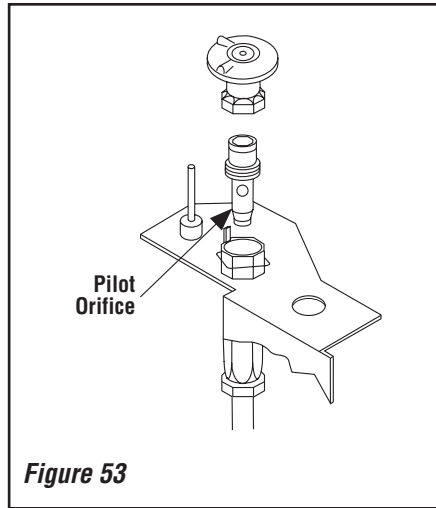

Figure 53
Step 12. See **Figure 53** and replace the pilot orifice as follows: Remove the pilot hood assembly to access the hexed pilot orifice. Remove and replace the orifice with the one provided with the kit. **Exercise extreme care to prevent damage to or breakage of the ignitor assembly.**